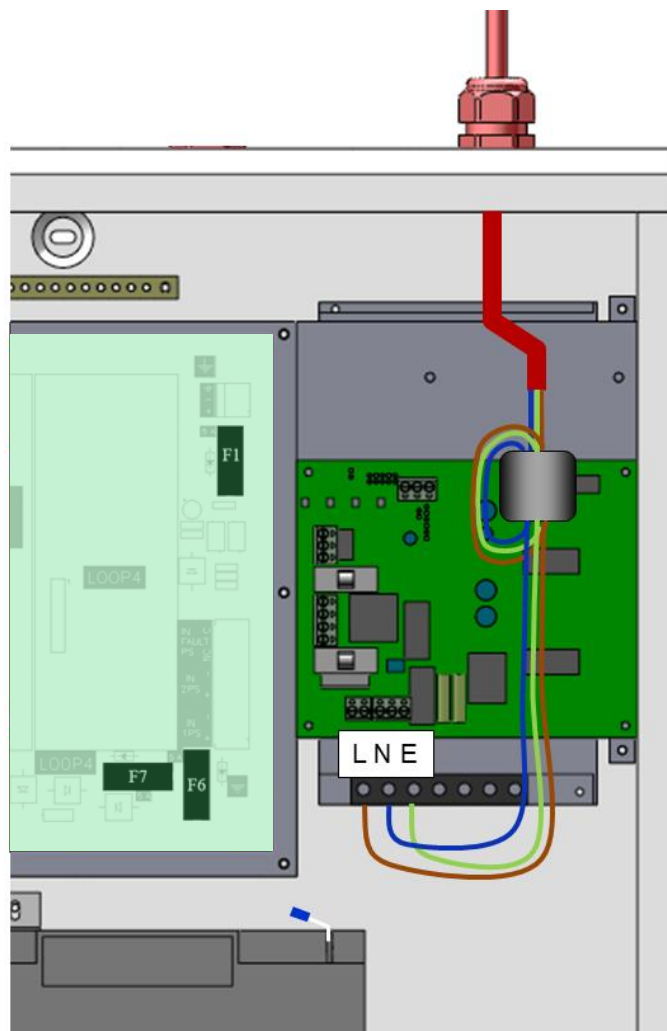

Figure 3: Power Supply PCB layout and Mains connection details
The AC Live (L), Earth (E) and Neutral (N) connections are marked on the power supply cage (top right of Figure 3). It is essential that the mains Earth cable is connected to the PSU's Earth terminal. The incoming mains cable should be kept separate from the loop cables to help minimize mains interference.